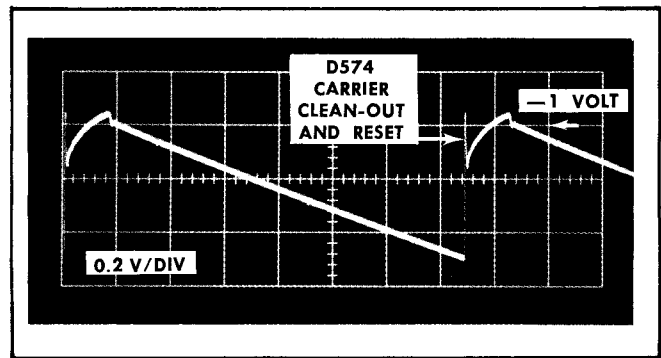

Fig. 4-16. Ratemeter Ramp.
The Ratemeter ramp consists of a Reset Multi (Q572-Q573), a constant current capacitor charging transistor (Q575) and the ramp capacitors that are charged at the constant current rate (C591 through C594). The Reset Multi conducts when driven by the Logic Drivers at one half the holdoff period. (See waveform (I) in Fig. 2-7 and Fig. 4-16.) The multi remains in conduction until whatever negative charge was in the ramp capacitor(s) is nearly discharged. When Q573 emitter reaches  $-0.95$  volt, its collector current (mainly from the ramp capacitor) is reduced until R574 current turns D574 on and D572 off, which removes the turn-on bias to Q572. Q572 current drops to zero and both transistors stop conducting. Immediately constant current transistor Q575 starts the ramp capacitor(s) charging negative.